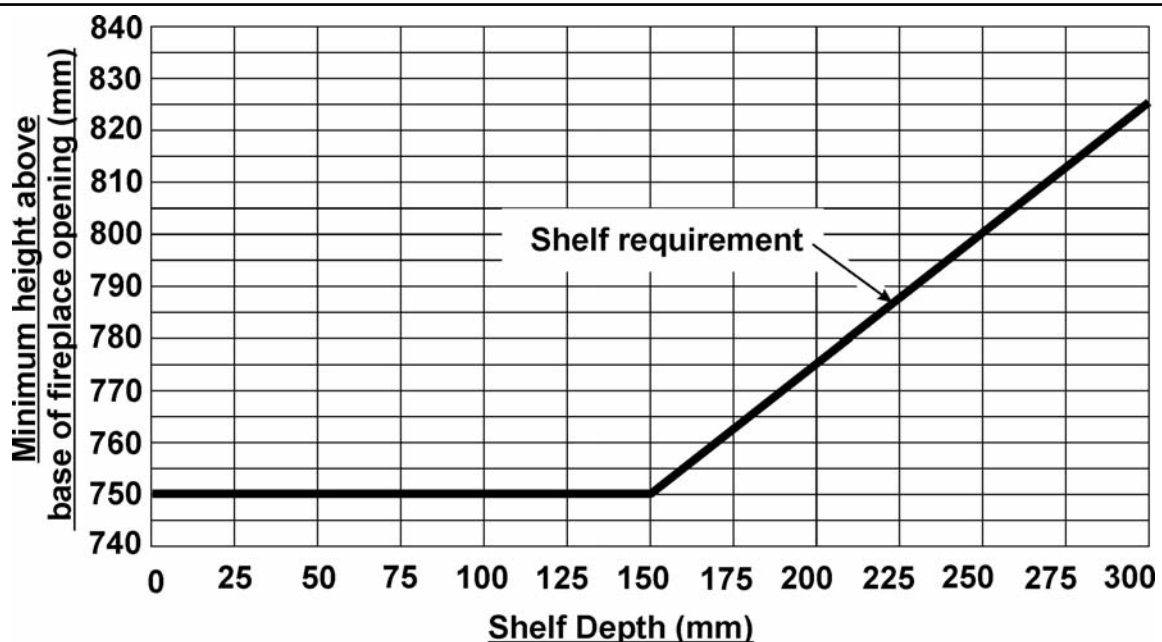

Figure 1. Combustible shelf clearances
• *For a shelf deeper than 150mm: 750mm + 12.5mm for every 25mm depth over 150mm (See figure 1).*